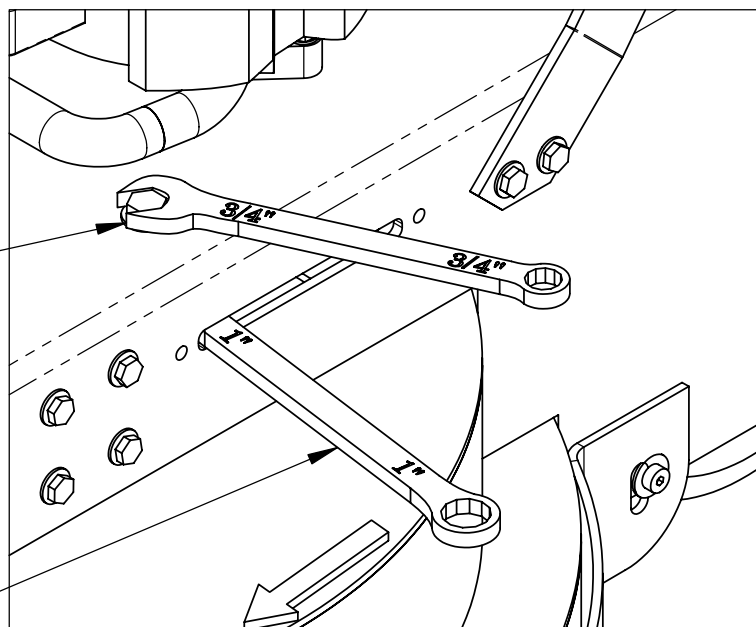

FIGURE 3
- PULL THE WRENCH FORWARD TO TIGHTEN THE BELT (FIGURE 3) AND HOLD.